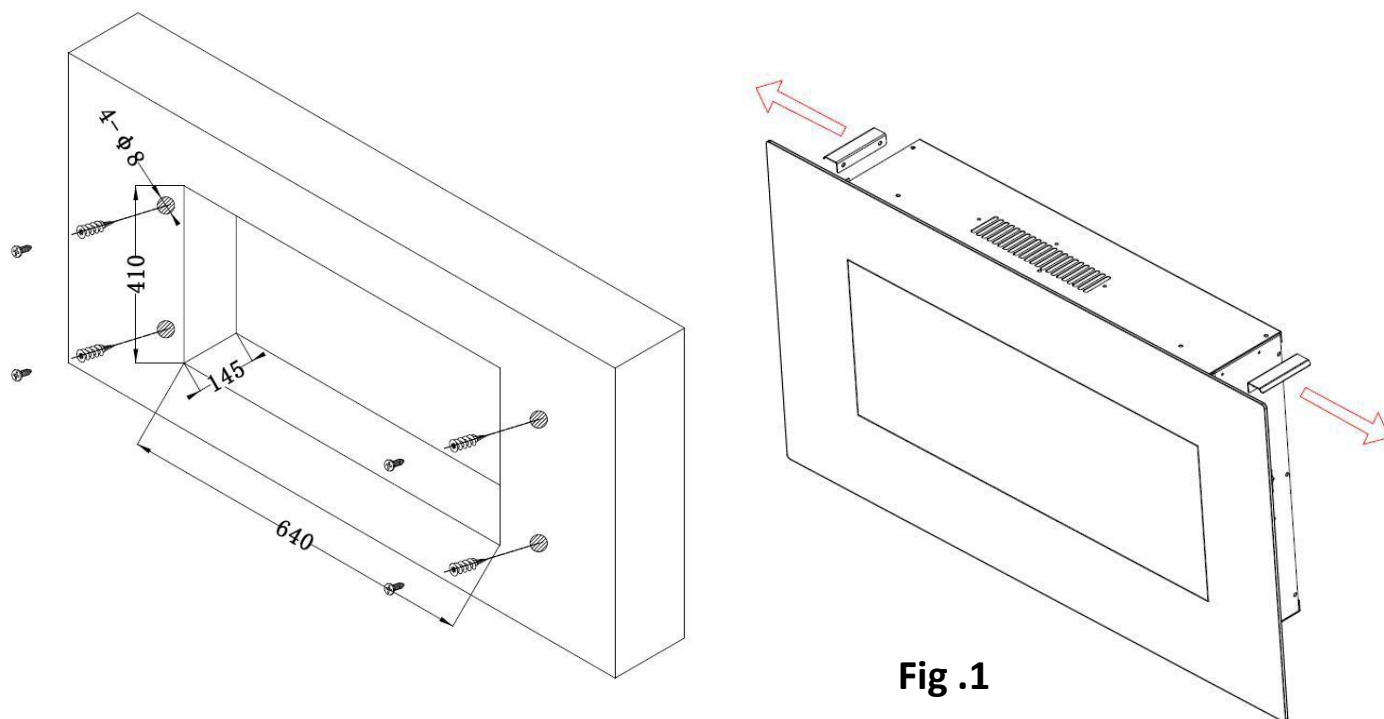

Fig .1
C. Place unit face down on a soft, non abrasive surface. Remove the bracket from the back of the unit by removing the screws, refer to Figure 1.
Note: Take off the two handle before doing installation (see Fig.1)